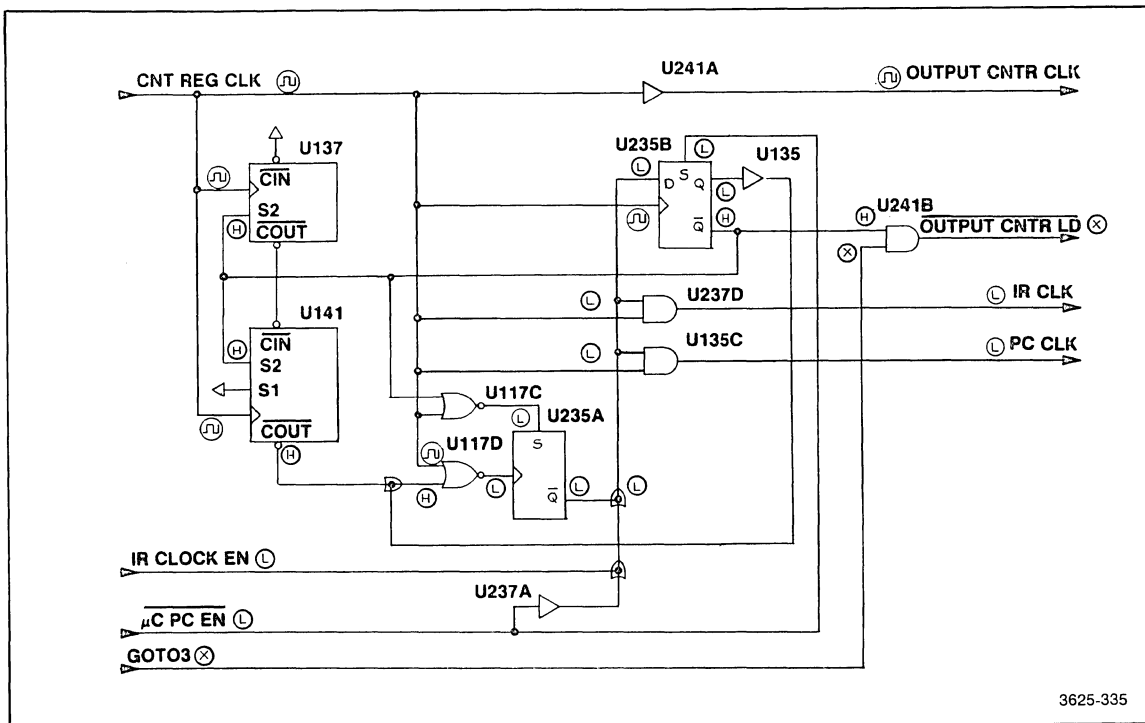

Figure 4-39. Clock control: start-count logic state.
The Q(H) output of register U235B goes low, but the clock input to register U235A remains low because of the CO(L) pin of U141. Figure 4-39 shows the status of the circuitry at this point.
The situation shown in Figure 4-39 stays stable until the counters in the count register (U137 and U141) wrap around, causing the CO(L) (or COUT(L)) pin of U141 to go low. That low causes NOR gate U117D to start transmitting the inverse of the clock to register U235A.